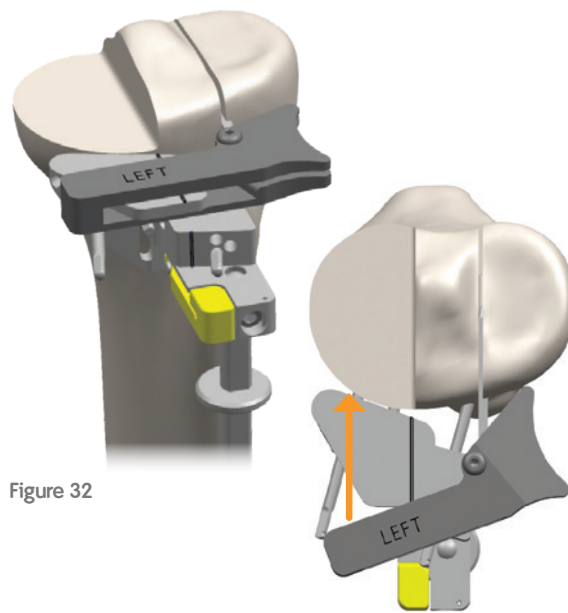

Figure 32
- 1 Locate the lateral Eminence Pin hole. Press the floating pin of the Lateral saw capture block into the hole while sliding the posterior tip of the saw capture behind the patellar tendon (Figure 32).